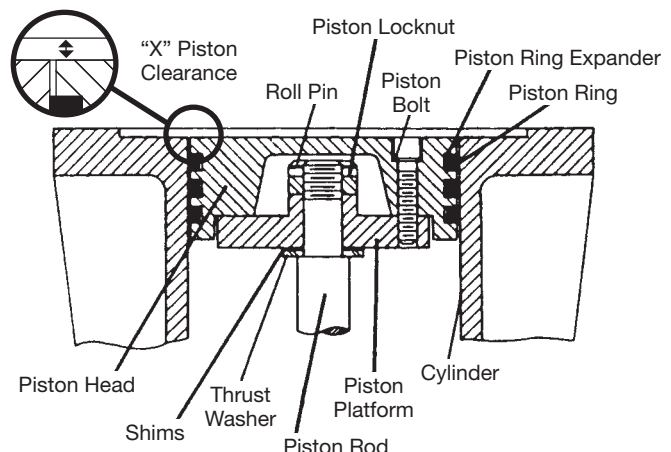

Figure 4.4A: 1st Stage Piston for Model 351 and the 1st and 2nd Stage Pistons for Model 391.
4. Now measure dimension "X", shown in figure 4.4A. If this measurement does not fall within the tolerances